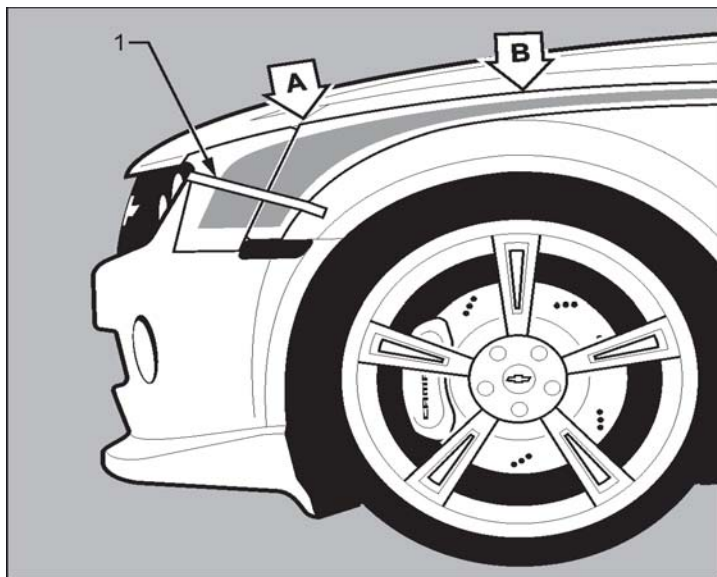

FIGURE 1
1. Position front fender stripe into position with the center of the notch between the fascia and front fender panel edges. Ensure the decal follows the contour of the top edge of the fender. Apply tape across the decal as shown in figure 1.